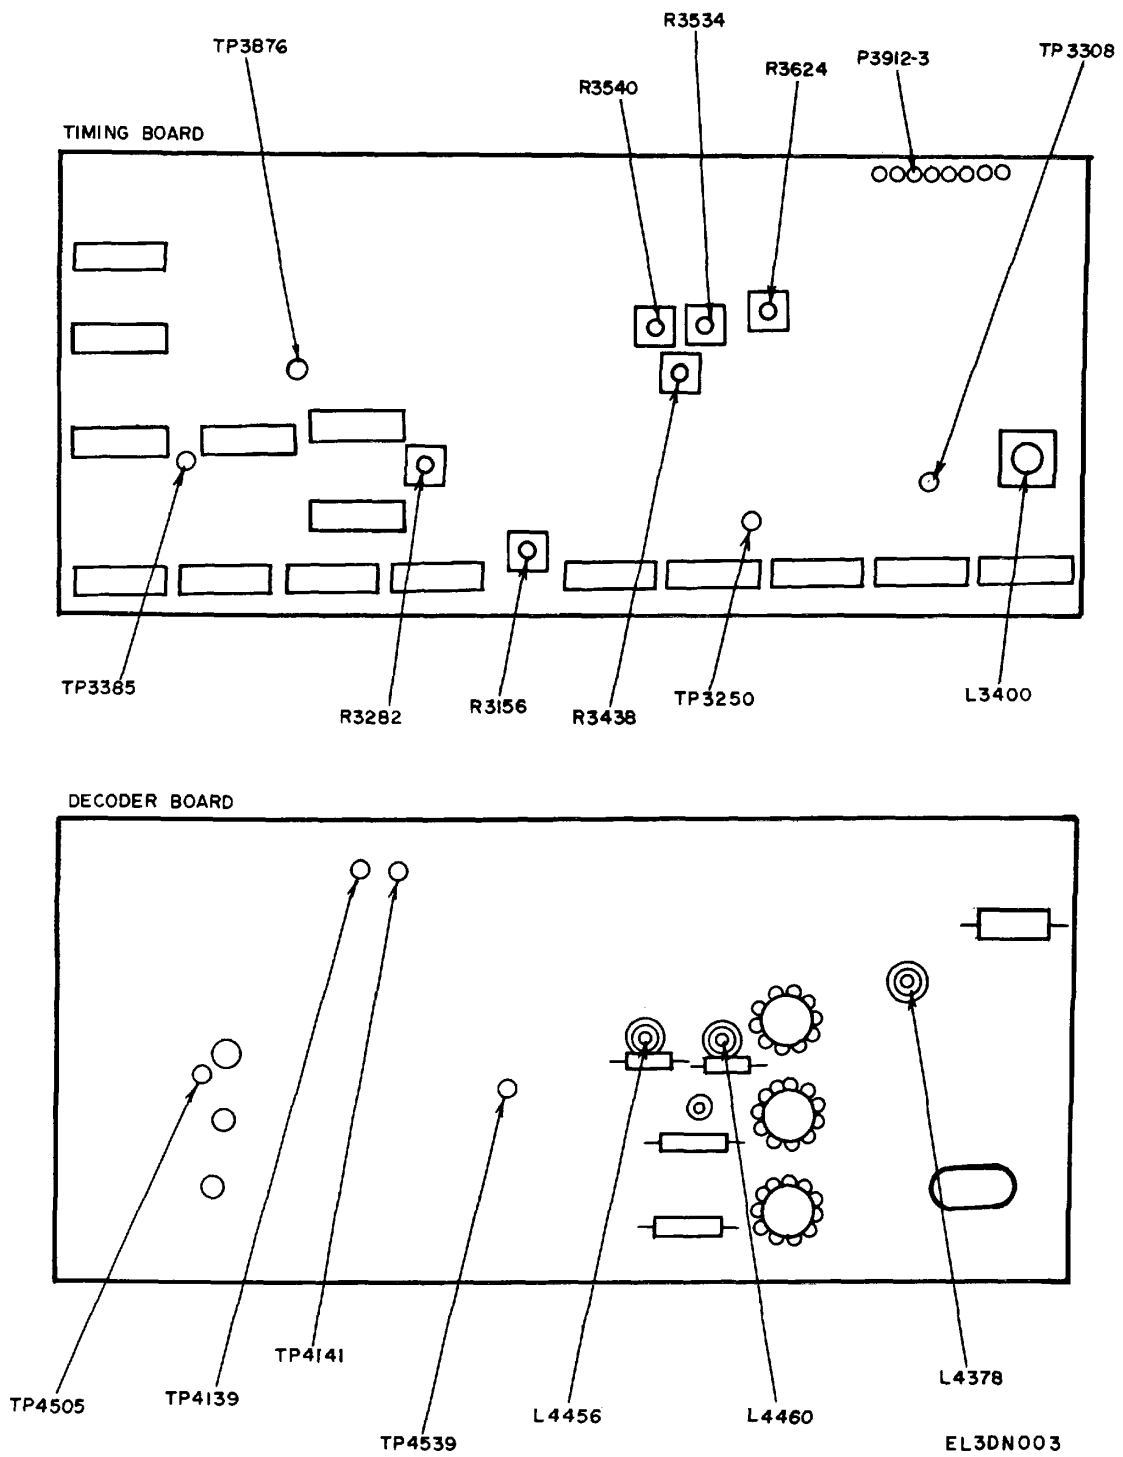

Figure 3. Timing and decoder boards - component locations.
(1) Connect the oscilloscope (A4) to TI TP3308 (fig. 3), using probe (B2).
(2) If dc level indicated on oscilloscope exceeds +20 millivolts, perform b(1) below.
(3) Connect oscilloscope probe to TP3250 (fig. 3).
(4) Turn TI PEDESTAL DELAY and START controls to midrange.
(5) Connect oscilloscope probe to TP3385 (fig. 3). If width of displayed pulse is not 11 ± 1 microseconds, perform b(3) below.
(6) Connect oscilloscope probe to P3912-3 (fig. 3) (7) Adjust oscilloscope to display horizontal sync pulse and position leading edge of pulse at second vertical graticule line.
(8) Connect oscilloscope probe to TP3876 (fig. 3). If trailing edge of displayed pulse is not 8.5 ± 0.5 microseconds from second vertical graticule line, perform b(4) below.
(9) Repeat (6) and (7) above.
(10) Connect oscilloscope probe to TP4141 (fig. 3). If leading edge of displayed pulse is not 17 ± 0.5 microseconds from second vertical graticule, perform b(5) below; if trailing edge is not 32 ± 0.5 microseconds from second vertical graticule, perform b(6) below.
(11) Connect oscilloscope probe to TP4139 (fig. 3). If trailing edge of displayed pulse is not 46 ± 1 microseconds from second vertical graticule line, perform b(7) below.
(12) Connect oscilloscope probe to TP4505 (fig. 3).
(13) Adjust oscilloscope to display VIR (vertical interval reference) signal. Adjust L4378 (fig. 3) for
(14) Connect oscilloscope probe to TP4539 (fig. 3). Adjust L4460 and L4456 (fig. 3) for optimum peak response of the demodulated VIR signal and chroma.
(15) Adjust video signal source (A6) for 10 percent APL (average picture level) flat field output. If APL, as indicated on oscilloscope is not zero, perform b(8) below.
(16) Adjust TI PEDESTAL DELAY control for minimum aberration on waveform approximately 62 microseconds from leading edge of horizontal sync pulse.
(17) Adjust TI PEDESTAL START control for minimum aberration on waveform approximately 11 microseconds from leading edge of horizontal sync pulse.
(18) Adjust video signal source for 0 APL flat field output. If APL, as indicated on oscilloscope, is not zero, perform b(8) below.
b. Adjustments (1) Adjust L3400 (fig. 3) for oscilloscope indication of zero volt dc (R).
(2) Adjust R3624 (fig. 3) for 4-microsecond pulse width (R).
(3) Adjust R3156 (fig. 3) for 11-microsecond pulse width (R).
(4) Adjust R3282 (fig. 3) until trailing edge of displayed pulse is 8 microseconds from second vertical graticule line (R).
(5) Adjust R3534 (fig. 3) until leading edge of displayed pulse is 17 microseconds from second vertical graticule line (R).
(6) Adjust R3438 (fig. 3) until trailing edge of displayed pulse is 32 microseconds from second vertical graticule line (R).
(7) Adjust R3540 (fig. 3) until trailing edge of displayed pulse is 46 microseconds from second vertical graticule line (R).